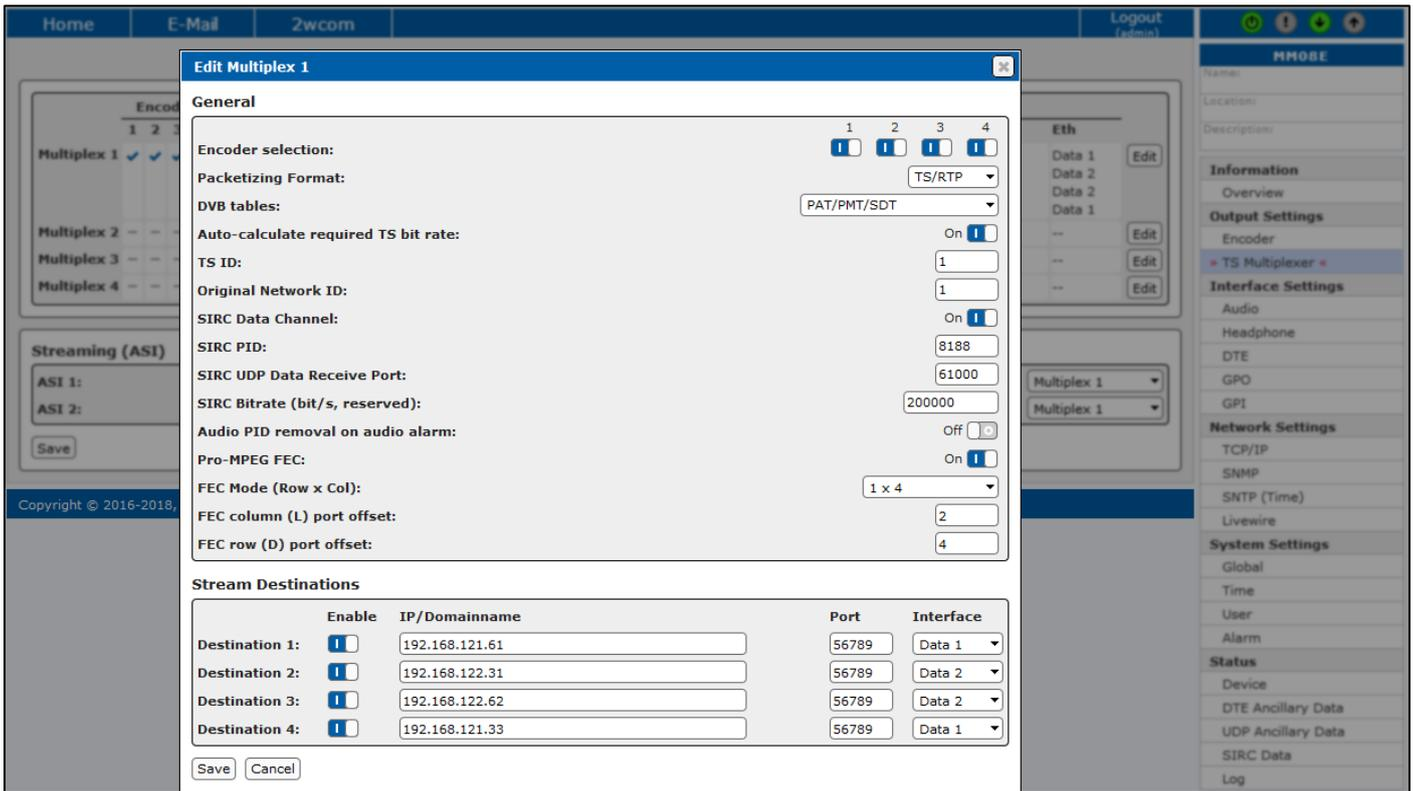

Figure 19: Edit output stream configuration
2. Click the "Edit" button in the field **Multiplex 1-8** to configure the output streams. The page "Edit Multiplex 1-8" appears (see Figure 19).